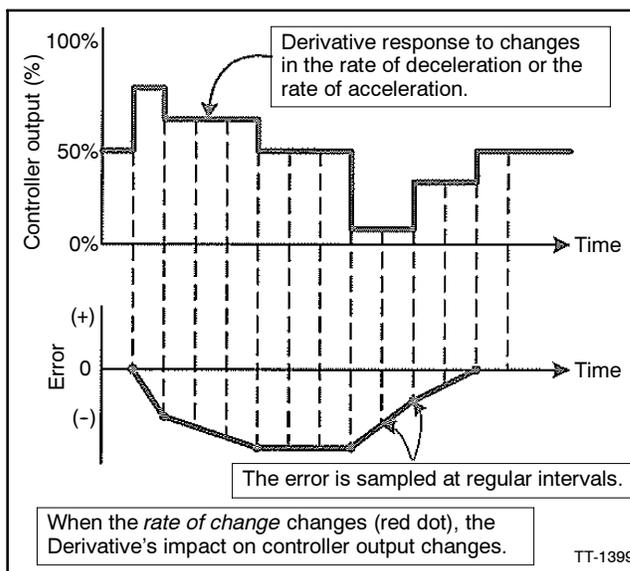

Figure 9 Derivative Value
7. **Derivative.** Enter the value from the Governor Parameter Summary. See Figure 9.